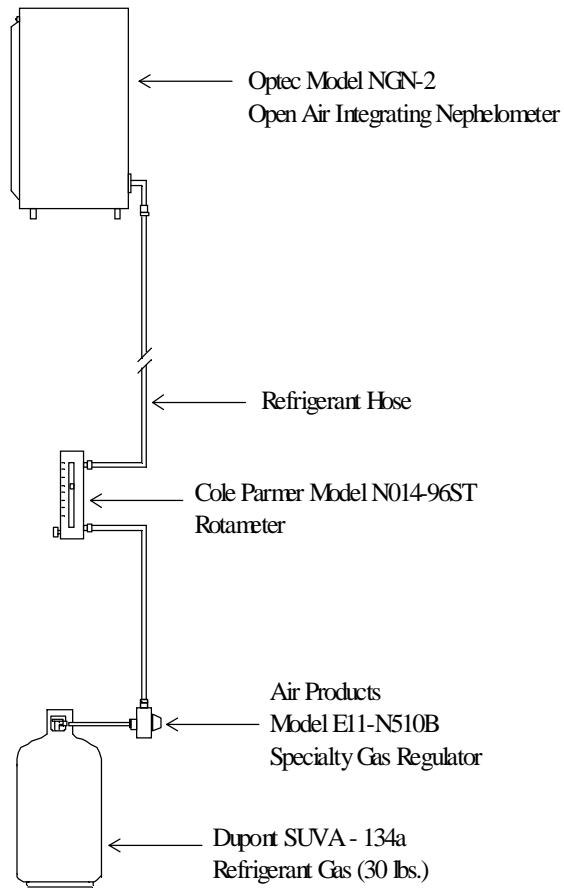

Figure 3-1. Manual Span Gas Calibration/Audit Configuration for the Optec NGN-2 Nephelometer.
- Calibration gas hoses and fittings to connect the tank, regulator, rotameter, and nephelometer (see Figure 3-1).